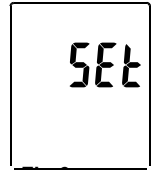

Fig.6
- (1) Turn off the unit.
- (2) Enter SETUP mode by pressing and holding  button and then press  power button to turn on the unit. "SET" blinks on the LCD screen. (see Fig.6)
- (3) Press CLOCK () button to set clock.
- (6) Select “Launch the CP210x VCP Driver Installer” option, then click Finish. (see Fig.6)